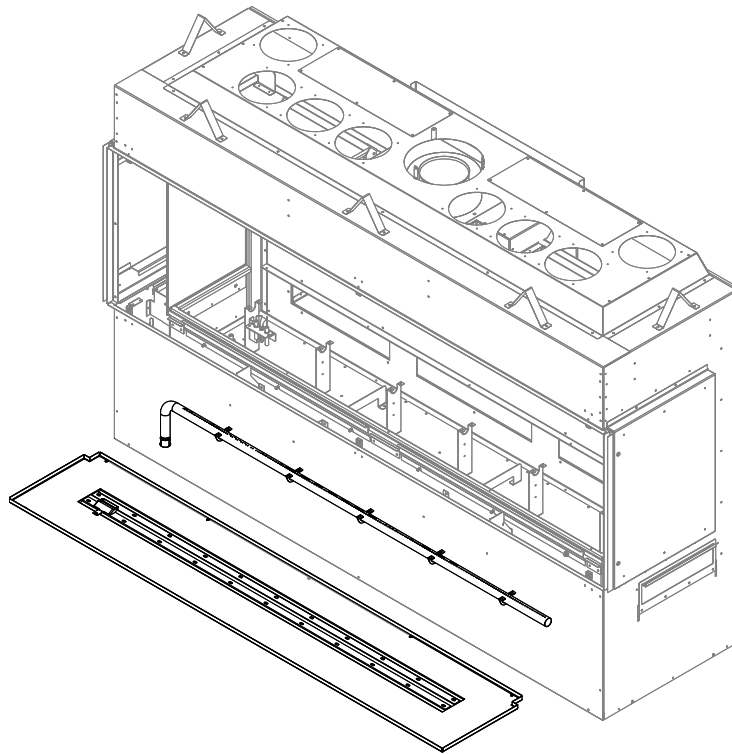

Figure 7.11 - Burner Media Tray and Burner Removal
3. Reinstall in reverse steps. See Figure 7.11.